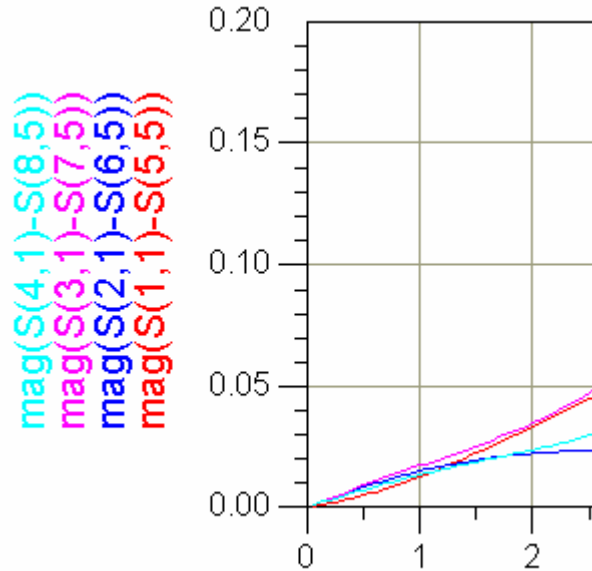

Figure 6. Expressions used to calculate the magnitude of the difference between the S-parameters of the ideal and microstrip couplers.
- iv) Enter the remaining three expressions that are shown in Figure 6.